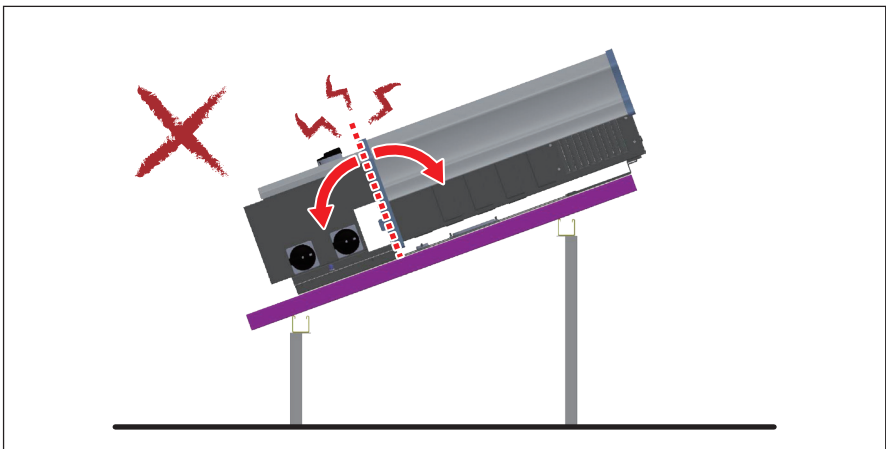

Figure 3-13: Stress/torque should be prevented when installing the inverter
2. When installing the inverter on the rack system, use care not to apply excessive stress/torque as shown in **Figure 3-13**. It's known that for most tilt installations, a rigid conduit body (e.g./ "LB") will be applied to the AC side. Installer must exercise care when installing, as overstressing the chassis may open a path for water intrusion through the contact surface between the inverter module and the wiring box.